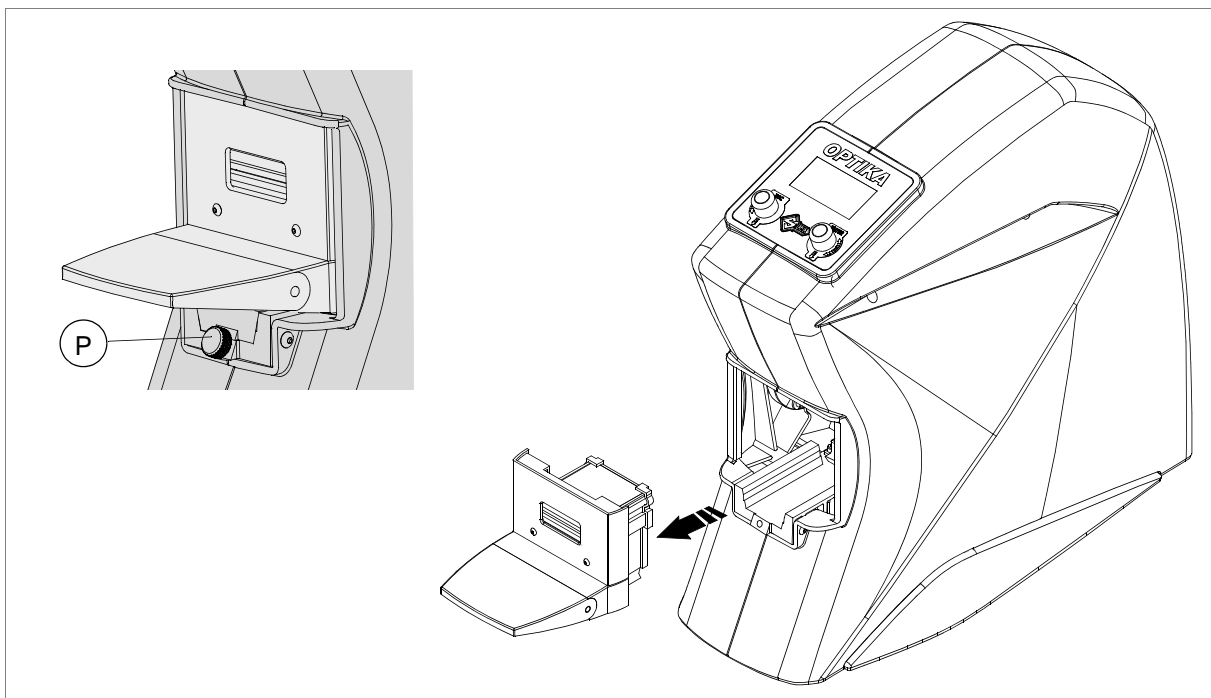

Fig. 42
- 2) Completely unscrew the clamp fixing knob (P) (fig. 42).